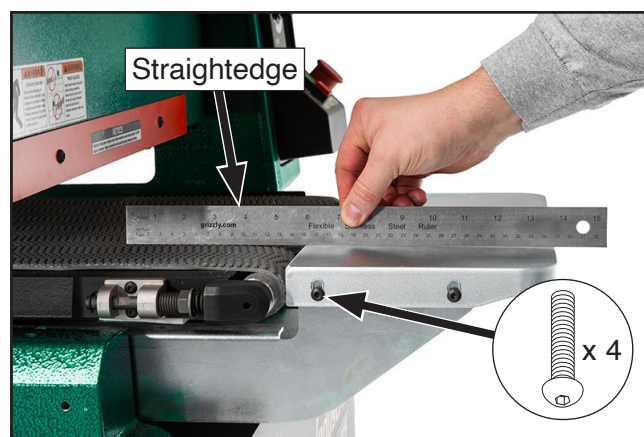

Figure 15. Checking extension table alignment.
- Check each extension table for alignment with conveyor table (see **Figure 15**).
- For extension table(s) not aligned to conveyor table, loosen table button head cap screws (see **Figure 15**). Adjust table until it is aligned with conveyor table, then tighten screws to secure.